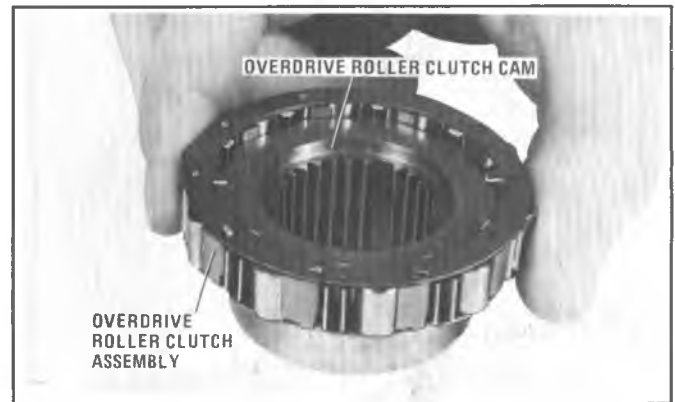

Figure 7A6-185 Installing Overrun Roller Clutch Cam
12. Install snap ring (Figure 7A6-175). Make sure composition clutch plates turn freely.